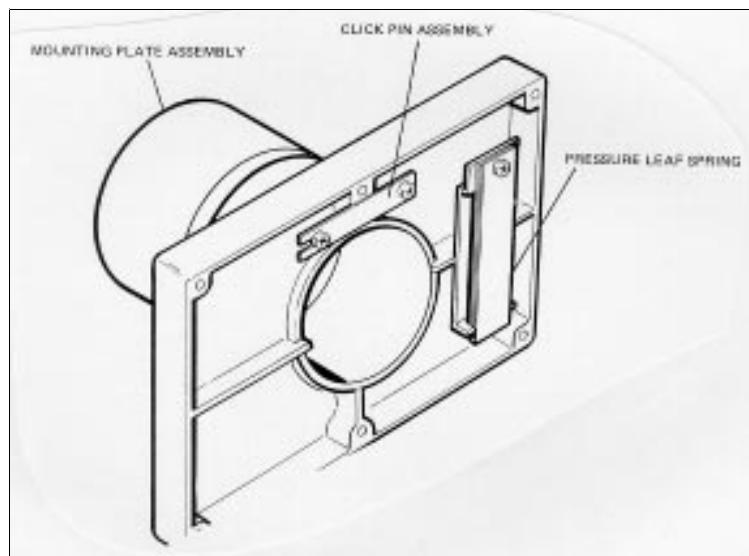

Figure 5-9. Bellows Mounting Plate Assembly
- 2) Remove the six screws holding the mounting plate assembly (figure 5-9) to the bellows frame and remove the mounting plate.
- 1) Lubricate the leaf spring where it contacts the bushings with Dow-Corning #D-55 Silicone Lubricant (see figure 5-9).
7) Lubricate the leaf spring where it contacts the bushings with Dow-Corning #D-55 Silicone Lubricant (see figure 5-9).